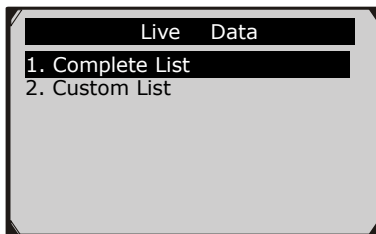

Figure 5.11
- 1) To view complete set of data, use **UP/DOWN** scroll button to select **Complete List** from **Live Data** menu and press the **OK** button. (Figure 5.11)
- 1) To view customized PID data, use the **UP/DOWN** scroll button to select **Custom List** from **Live Data** menu and press the **OK** button.(Figure 5.11)